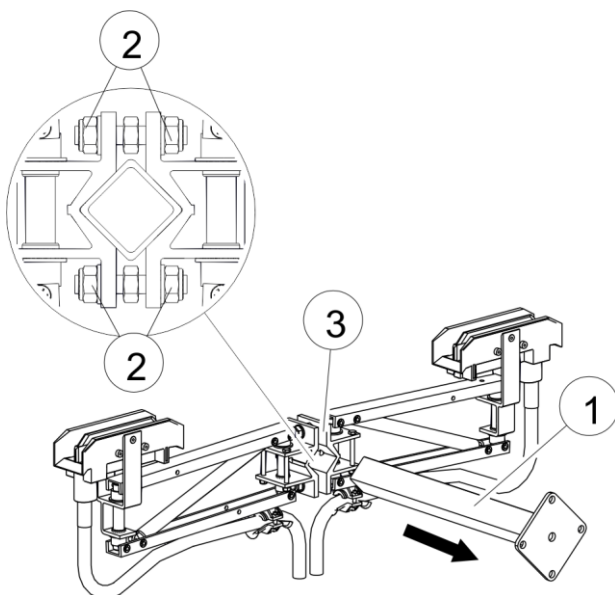

Fig. 119: Mount the towing arm
- Tension the towing arm (Pos. 1) in the middle support (square) (Pos. 3) of the current collector. At the same time, gradually tighten the outer M10 nuts (Pos. 2) in alternation with the specified torque (SW 17, torque wrench: **44 Nm**) (see Fig. 119). Pay attention to the tolerances and instructions provided above.